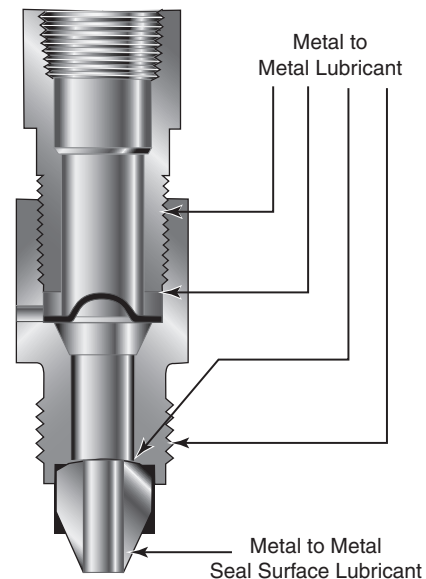

Figure 5
**6. Safety Heads/2-Piece Male/Female Adapters** - The threads and end of the hold down nut in Safety Head should be lubricated. Refer to Figure 5 for lubrication sites on the safety head.